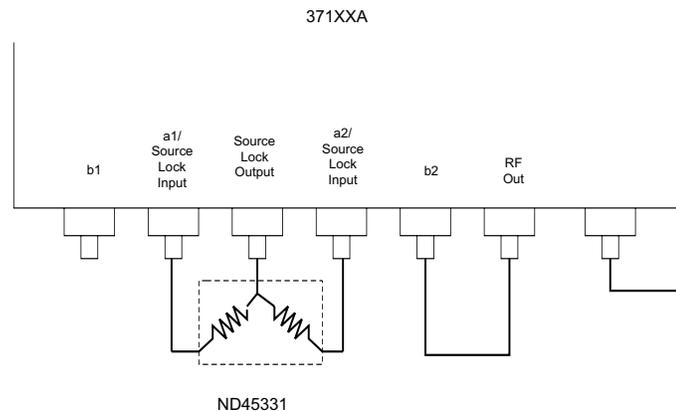

Figure 4-6. Noise Floor/Receiver Dynamic Range Setup
Step 1. Set up the equipment per Figure 4-6.